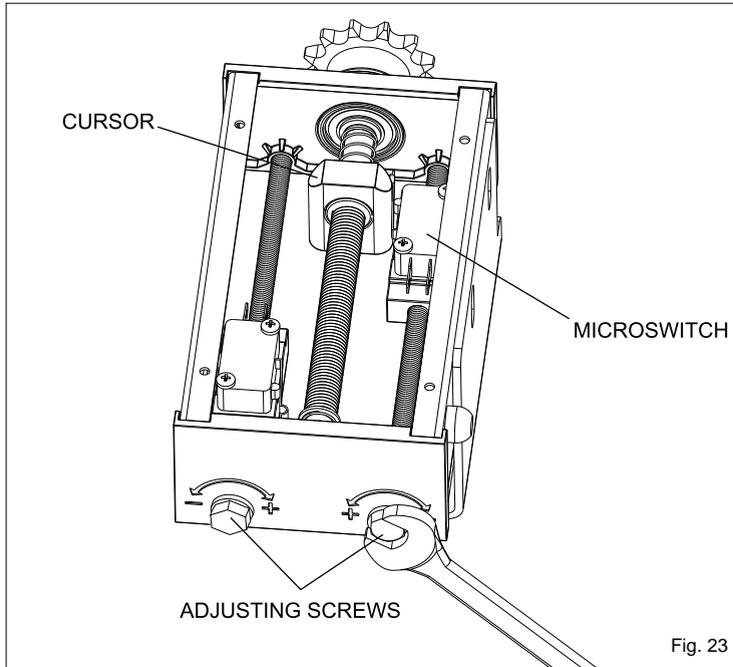

Fig. 23
- act on the adjusting screw so that the microswitch can activate the contact with the cursor (Fig. 23)